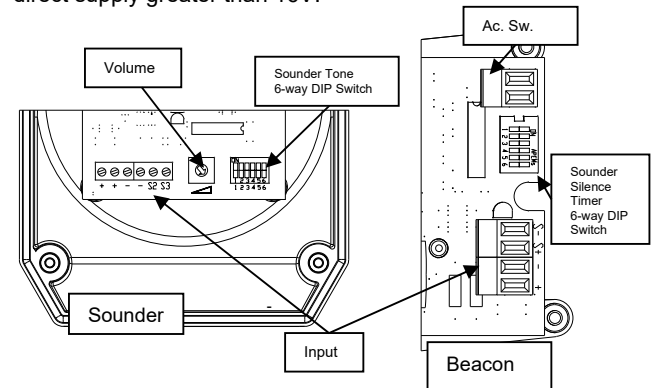

Fig 2 Location of field terminals and controls.
- c. Remove the PVC grommet and fit a M20 x 1.5 cable gland or conduit entry into the hole in the enclosure and connect the field wiring to the appropriate combined sounder beacon terminals as shown in sections 5 & 6 and fig 2 of this manual. The power supply terminals + and - are duplicated so that combined sounder beacons may be connected in parallel, or an end of line monitoring resistor may be fitted.
- d. Select the required sounder output tone by positioning the 6-way DIP switch as shown in Table 2.0 and Fig 2.
- e. If required, set sounder silence timer delay using the 6-way DIP switch as shown in Table 3.0 and Fig 2.
The output level of the IS-DL105 combined sounder beacon can be set by adjusting the volume control potentiometer (see Fig 2).
Tone Selection – To select the required first stage tone set the tone switches 1 to 6 (see Fig 2) to the tone setting shown in the table below. The table also shows which 2nd and 3rd stage tones are available for use with the selected first stage tone if more than one tone output stage is required.